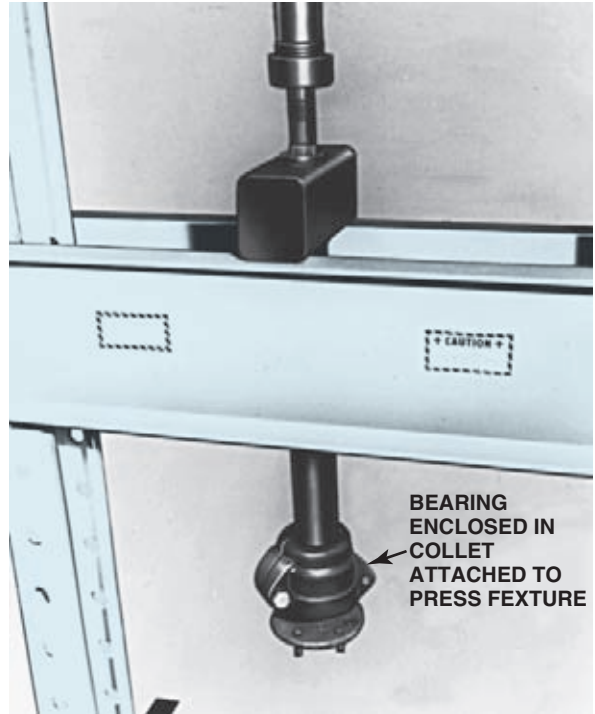

FIGURE 12-39 The fixture shown in Figure 12-38 has been placed in a press, and the axle is being forced from the bearing. (Courtesy of OTC Tools)
3. Place the fixture in the bed of a press and press the axle out of the bearing and lock ring (Figure 12-39).